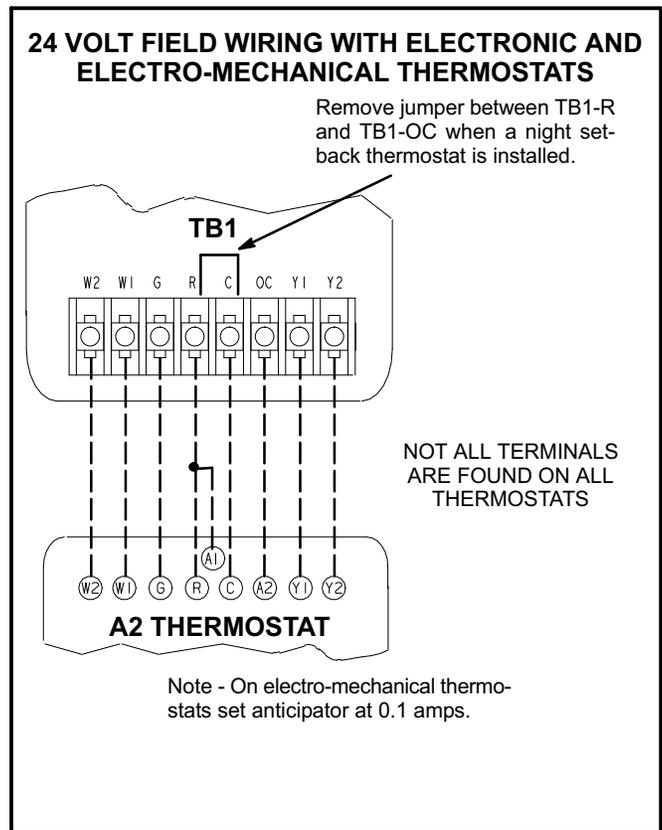

FIGURE 6
- 3- Connect thermostat wiring to TB1 terminal as shown in figure 6 for electro-mechanical and electronic thermostats. If using other temperature control devices or energy management systems see instructions and wiring diagram provided by manufacturer.